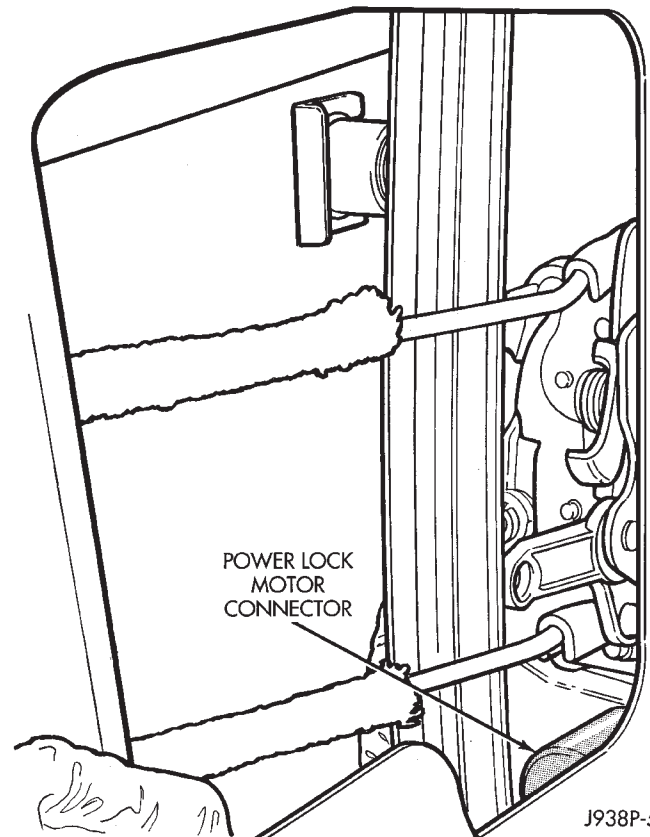
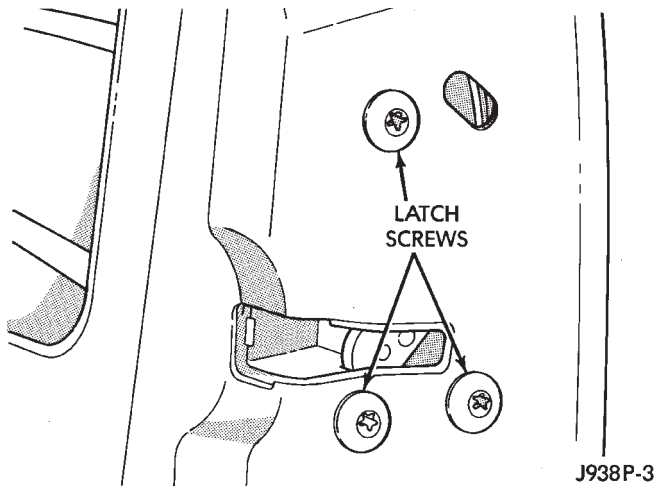

Fig. 7 Power Lock Motor—Front Door
Fig. 9 Latch Removal/Installation—Front Door
- (3) Disconnect 4 linkage rods from their clips (Figs. 7 and 8).
- (4) Unplug wire harness connector from lock motor.
- (5) Remove 3 torx head screws retaining the latch (Figs. 9 and 10).
- (6) Place the lock solenoid, latch and remote control rods in the door.